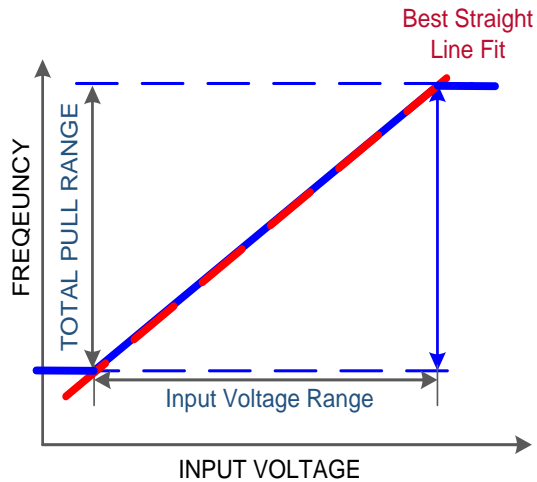

Figure 36. Typical SiTime VCTCXO Linearity
In any VCTCXO, there will be some deviation of the frequency-voltage (FV) characteristic from an ideal straight line. Linearity is the ratio of this maximum deviation to the total pull range, expressed as a percentage. Figure 36 below shows the typical pull linearity of a SiTime VCTCXO. The linearity is excellent (1% maximum) relative to most quartz offerings because the frequency pulling is achieved with a PLL rather than varactor diodes.